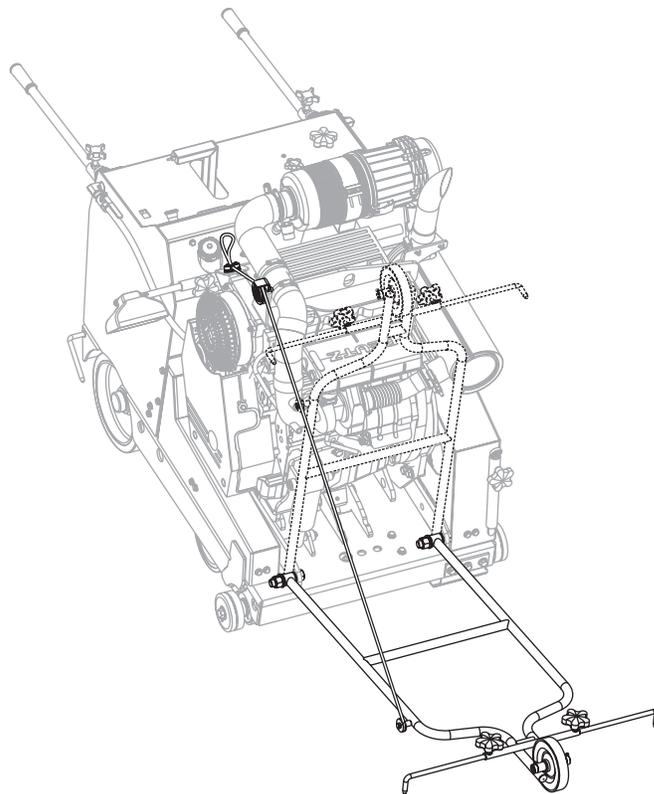

Figure 27. Pointer Assembly
1. Lower the front pointer assembly, (Figure 27).